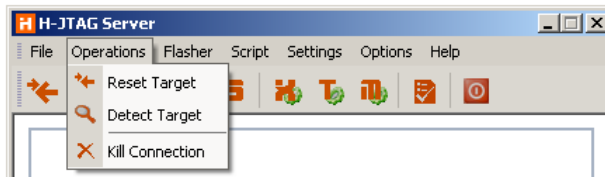

Fig 2-9 Operations Menu
- Operations Menu, as shown in Fig 2-9.